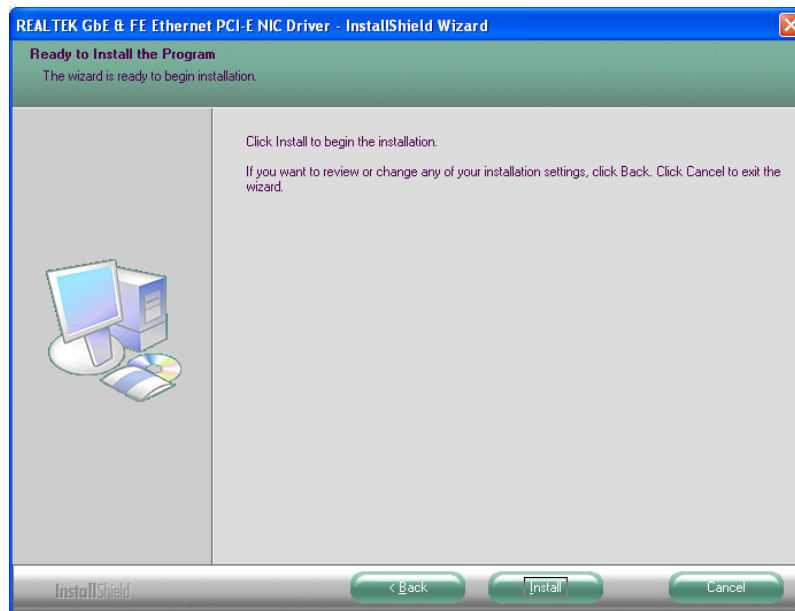

Figure 7-16: LAN Driver Welcome Screen
Step 4: The **Ready to Install** screen in **Figure 7-16** appears.